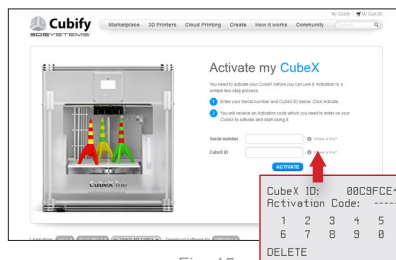

Fig. 15
- Enter the SERIAL NUMBER; the serial number is located on the interior back wall and on the back of the CubeX frame. (Fig. 15)
- Enter the CubeX ID; this ID can be found on the upper right corner of the CubeX touchscreen and click ACTIVATE. (Fig. 15)